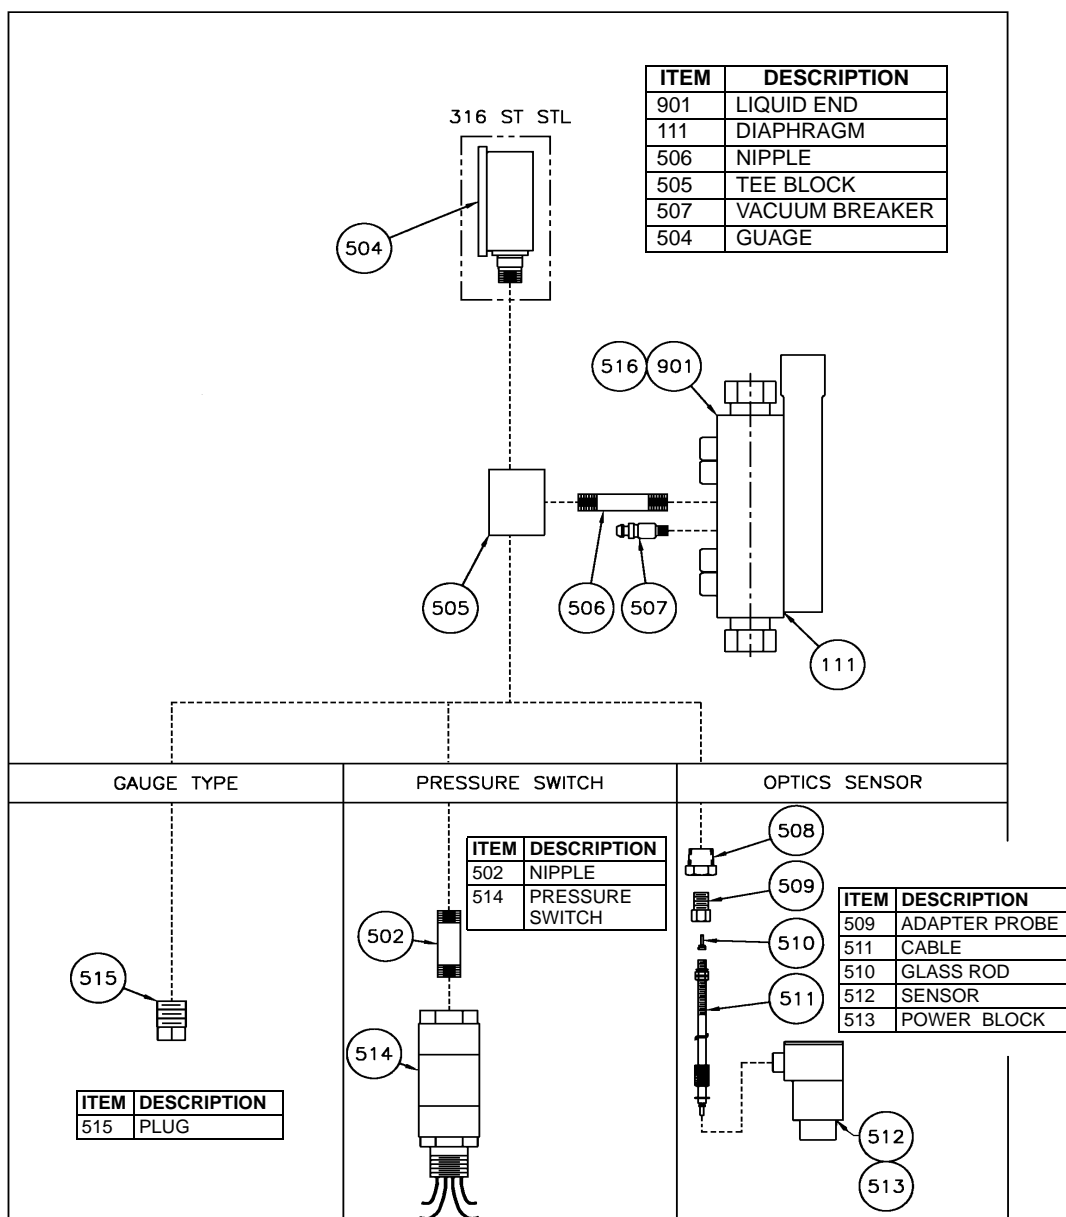

Figure 34. Metallic Leak Detection.
3. Loosen the bleeder located on the face of the liquid end. See Figures 34 & 35.
1. Assemble components as shown in Figures 34 or 35. Be sure all connections are adequately tightened to prevent leaks. Use TFE based pipe sealant for best results.
1. Install o-ring over glass probe and insert into probe adapter. Figures 34 or 35.